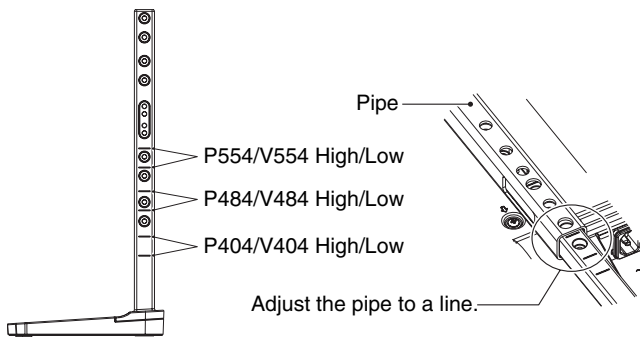

Figure 3
1. The lines on the stand pole are indicators of the height adjustment (**Figure 3**). Please adjust the pipe to the lines.